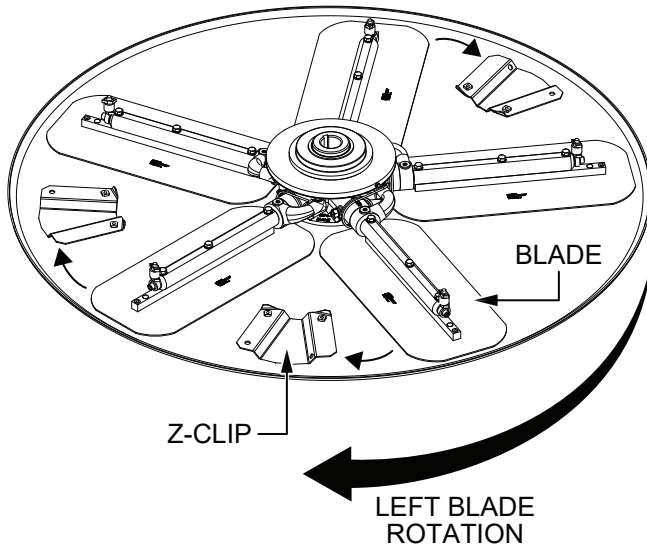

Figure 89. Blade Rotation
3. Rotate the blades into position under the Z-clips (Figure 89). Make sure the blades are rotated in the same direction as when the machine is in operation, or use the engine to rotate the blades into position.